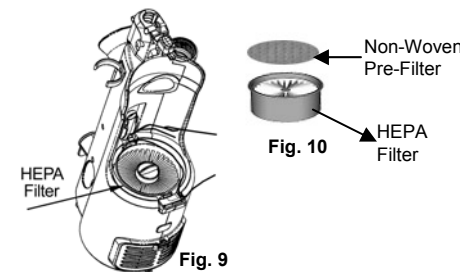
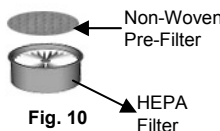

Fig. 9
Fig. 10
- The HEPA filter is located underneath the dust cup container. (Fig.9) Remove the Non-Woven Pre-Filter. (Fig. 10) Remove the HEPA filter, hold the edges and pull it out slowly.